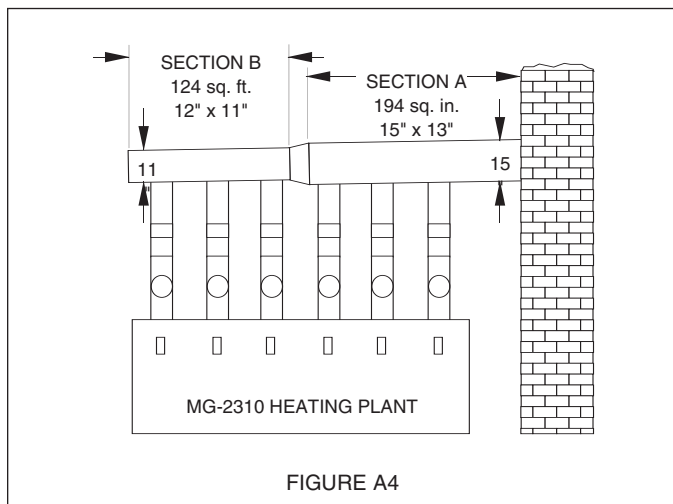

FIGURE A4
**Rectangular Breeching:** Where necessary to use rectangular instead of circular breeching, the larger dimension of the rectangle must be in the vertical, as shown in Figure A4, MG-2310A heating plant example. For the breeching division sizes from Figure A2, Section A is 194 square inches and Section B is 124 square inches. Size of the rectangles will be about 15" high by 13" wide for Section A and 12" high by 11" wide for Section B.